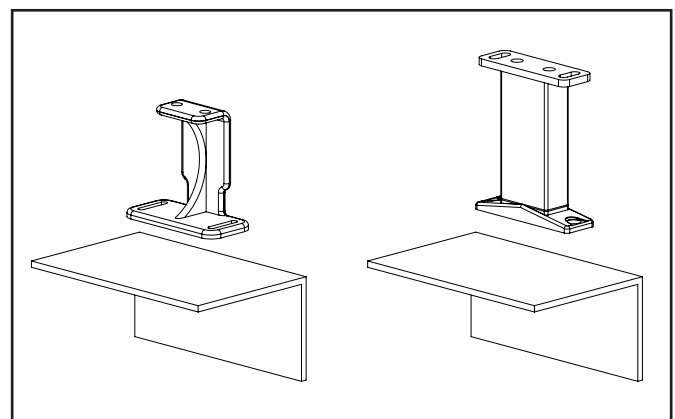

Fig. 10 : Mounting against the wal
- * If fixing methods A or B are not possible, an option is to fix against a wall (fig. 10). For this, angled profiles can be used in combination with flat attachment points A